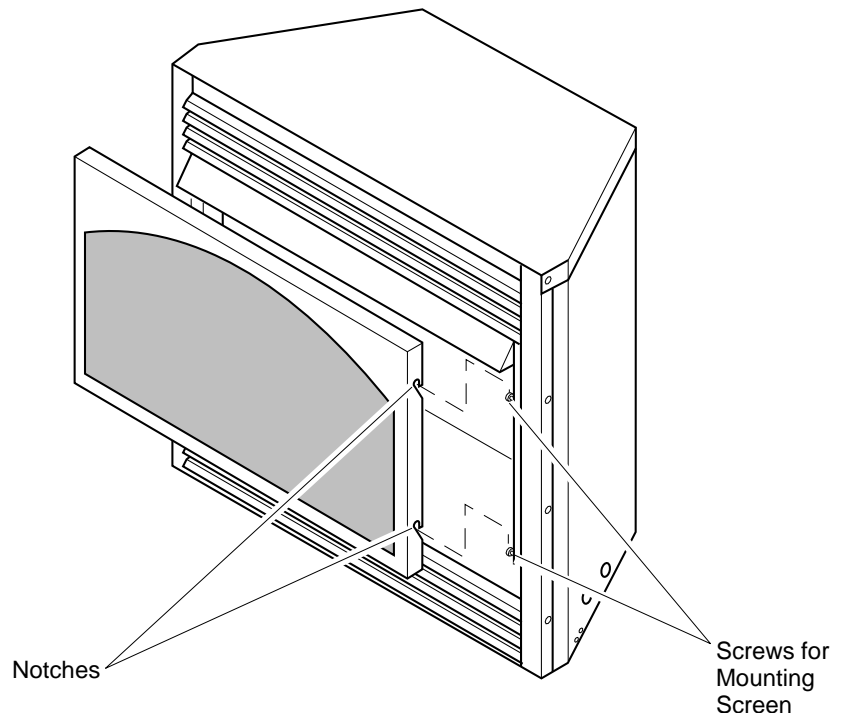

Figure 28 - Installing Fireplace Screen
5. Install fireplace screen by slipping notches of fireplace screen over screws on front of fireplace (see Figure 28).